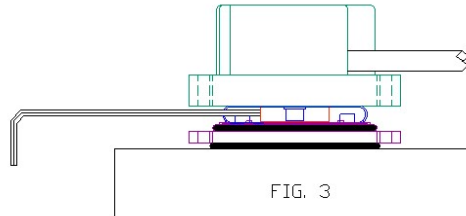

FIG. 3
**Step 3.** Tighten the setscrews by sliding an Allen wrench between the top cover and bottom flange and into the brass collar, as shown in Figure 3. There are two setscrews spaced 90 degrees apart. To avoid encoder damage, sufficient force should be used to ensure that the bottom flange is snug against the mounting surface when tightening the setscrews. Unwanted space between the bottom flange and the mounting surface will cause the encoder to engage the top cover during step 6.